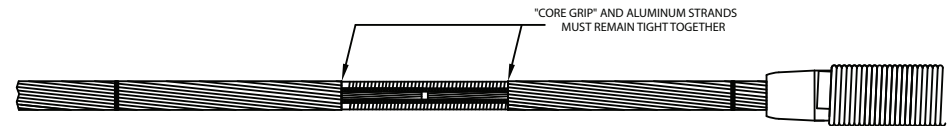

Fig. 4
4. **IMPORTANT:** File burrs from end of steel strands. Slide each conductor's steel core into ends of the "Core Grip" assembly. Rotate the "Core Grip" assembly in a "back-and-forth" motion to ease insertion of the steel core. Ensure "Core Grip" assembly is tight against the aluminum strands as shown in Fig. 4.